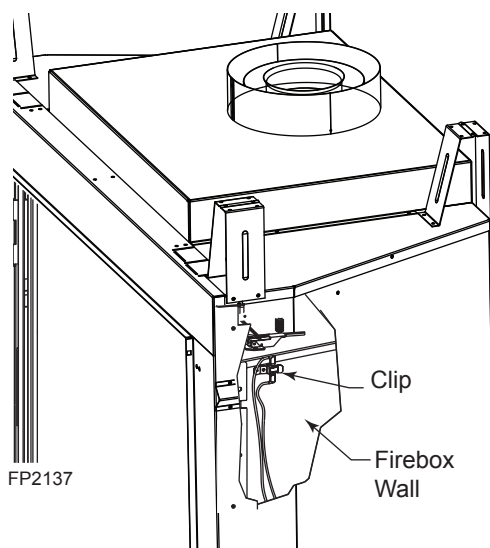

**Figure 35 -
12. Snap the fan limit switch behind the clip already assembled to the side of the firebox on the front right hand side. *Figure 35*